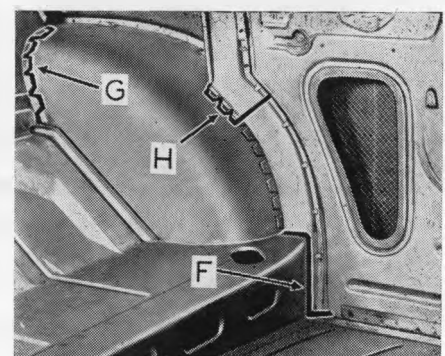

FIG. 5
5. On the inside of the body, cut the rear seat riser where it is spot welded at "F" Fig. 5.
6. Break loose the spot welds at "G" and "H" Fig. 5.
11. Tack welding operations on the inside of the body may be completed at "F", "G" and "H" Fig. 5.